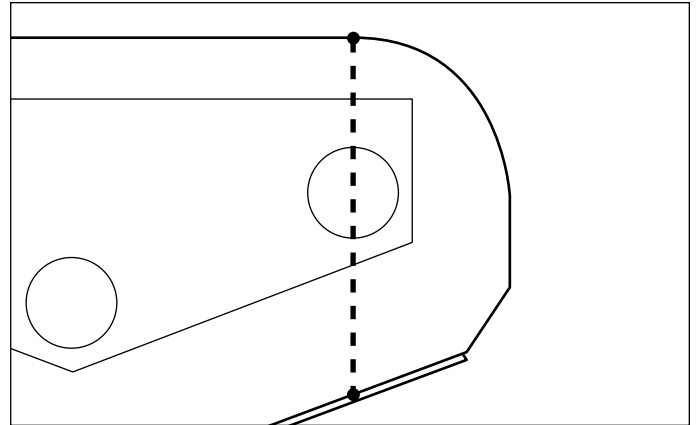

Figure 32. Height Measurement Location
2. Measure the front and back edges of the mower deck. It should measure 4-1/2" (11,4cm) from the ground to the front lower edge of the mower deck and 3-5/8" (9,2cm) from the back lower edge to the ground. These measurements should be made parallel to the frame of the tractor, in-line with the outer blade spindle housings on both sides of the mower deck (see Figure 32)